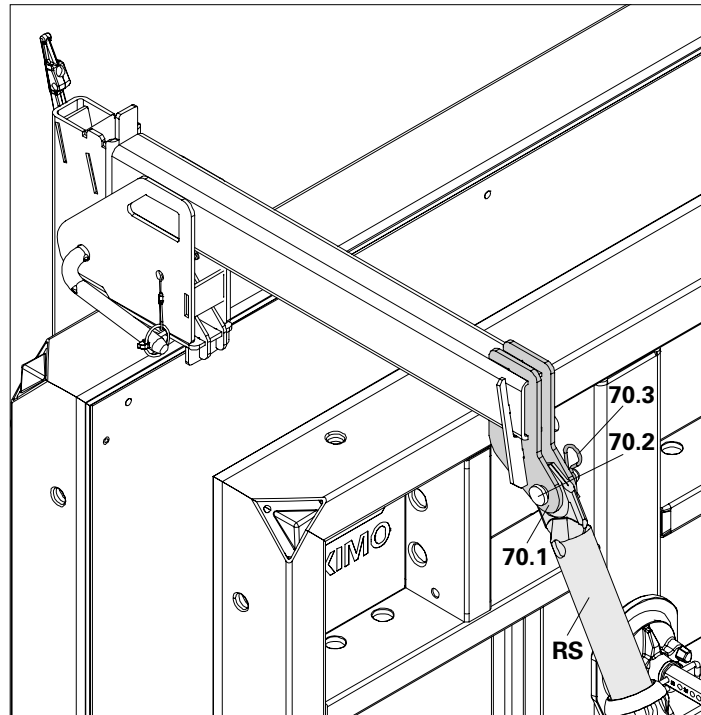

Fig. A6.01a
Connect Push-Pull Prop (RS) and connection lugs (**71.1**) with bolts (**71.2**) and cotter pins (**71.3**). (Fig. A6.01a)